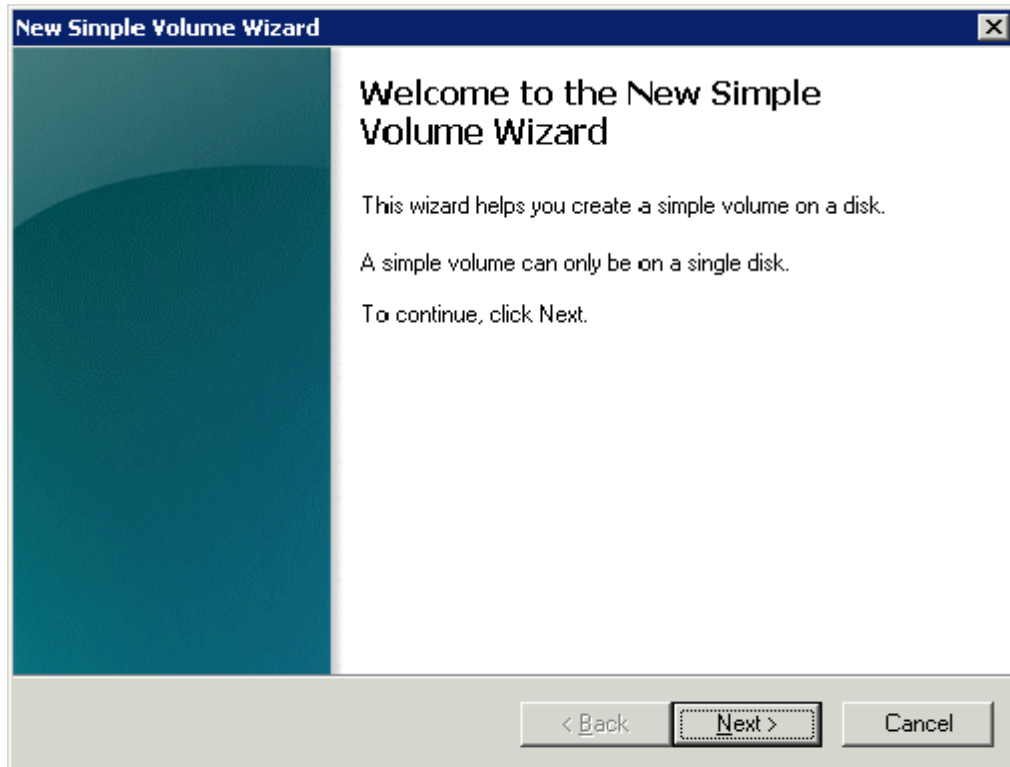

Figure 2-17: Starting the New Simple Volume Wizard
2. On the **Action** menu, click **Create Partition** to launch the New Simple Volume Wizard (Figure 2-17).